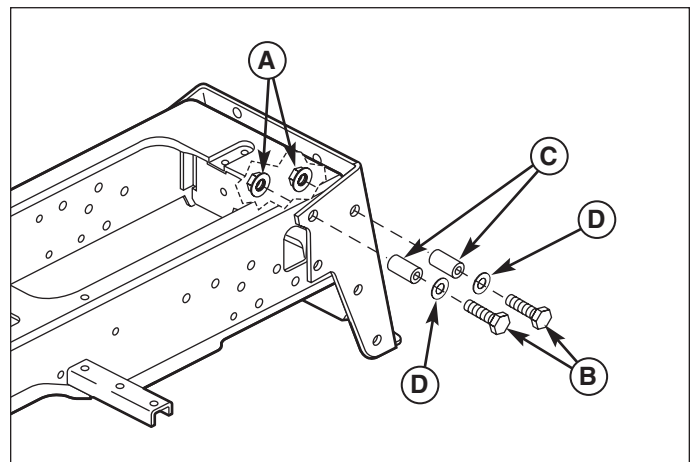

Figure 3. Install Rear Spacers
1. Install the rear spacers (C, Figure 3). Secure with two 1/2-13 x 2-1/2 cap screws (E), washers (D), spacers (C), and 1/2-13 nylock nuts (A) per side.